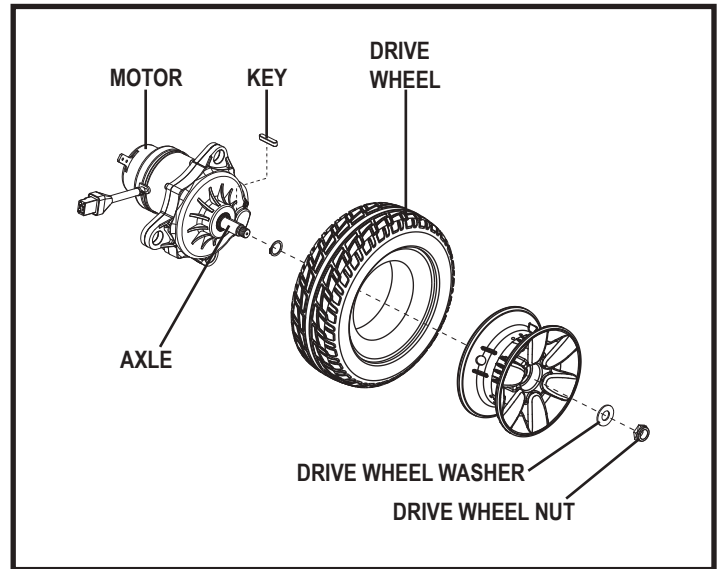

Figure 20. Jazzy Series Drive Wheel Removal
4. Remove the drive wheel nut and washer from the axle. **See figure 20.**
8. Reinstall the drive wheel nut and washer onto the axle and tighten. **See figure 20.**